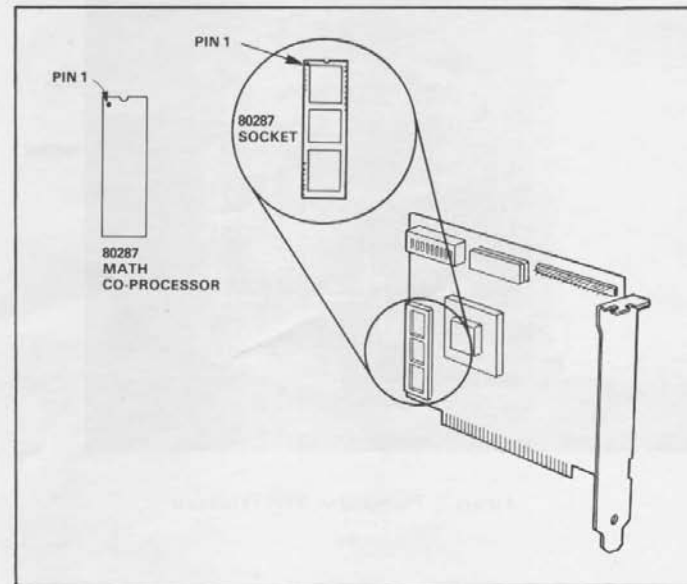

Figure 9. Installing 80287 in the 286 Express Card
8. If you are installing an 80287 math co-processor, plug it into the empty socket on the 286 Express Card shown in Figure 9.